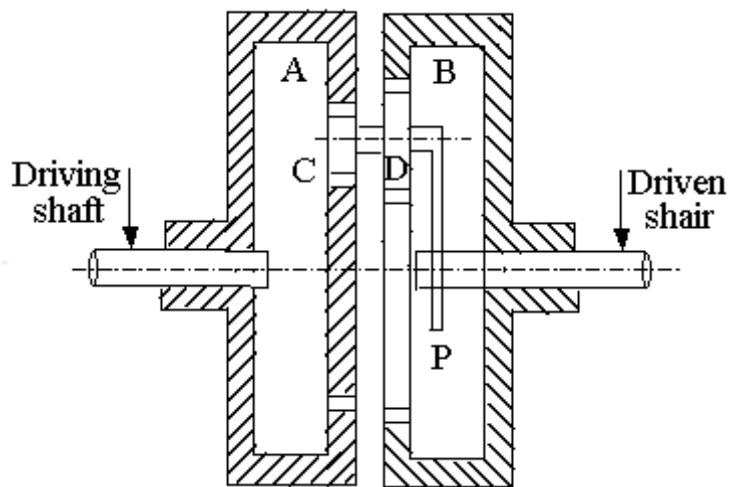

Figure 3:
8. An epicyclic train is shown in Figure 3. Internal gear A is keyed to the driving shaft and has 30 teeth. Compound wheel C and D of 20 and 22 teeth respectively are free to rotate on the pin fixed to the arm P which is rigidly connected to the driven shaft. Internal gear B which has 32 teeth is fixed. If the driving shaft runs at 60 r.p.m. clockwise, determine the speed of the driven shaft. What is the direction of rotation of driven shaft with reference to driving shaft?